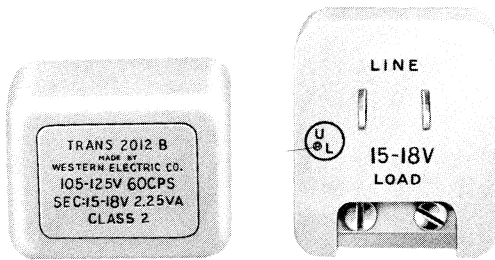

Fig. 5—2012B Transformer
- 2.09** The 2012B or 2012D transformer (Fig. 5 or 7) is intended to supply power to